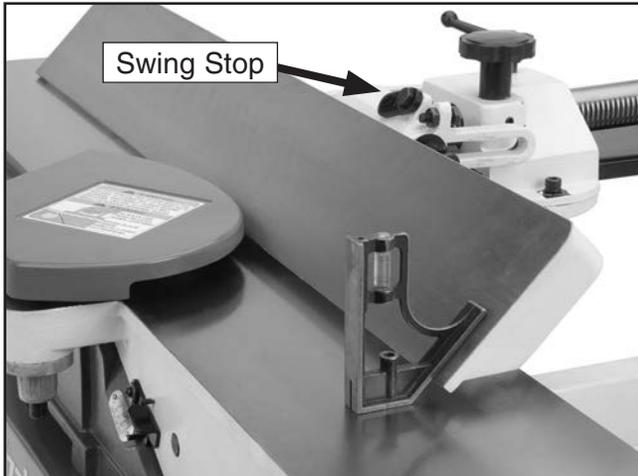

Figure 76. Adjusting fence 45° outward.
1. Flip the 90° swing stop out of the way as shown in **Figure 76**.